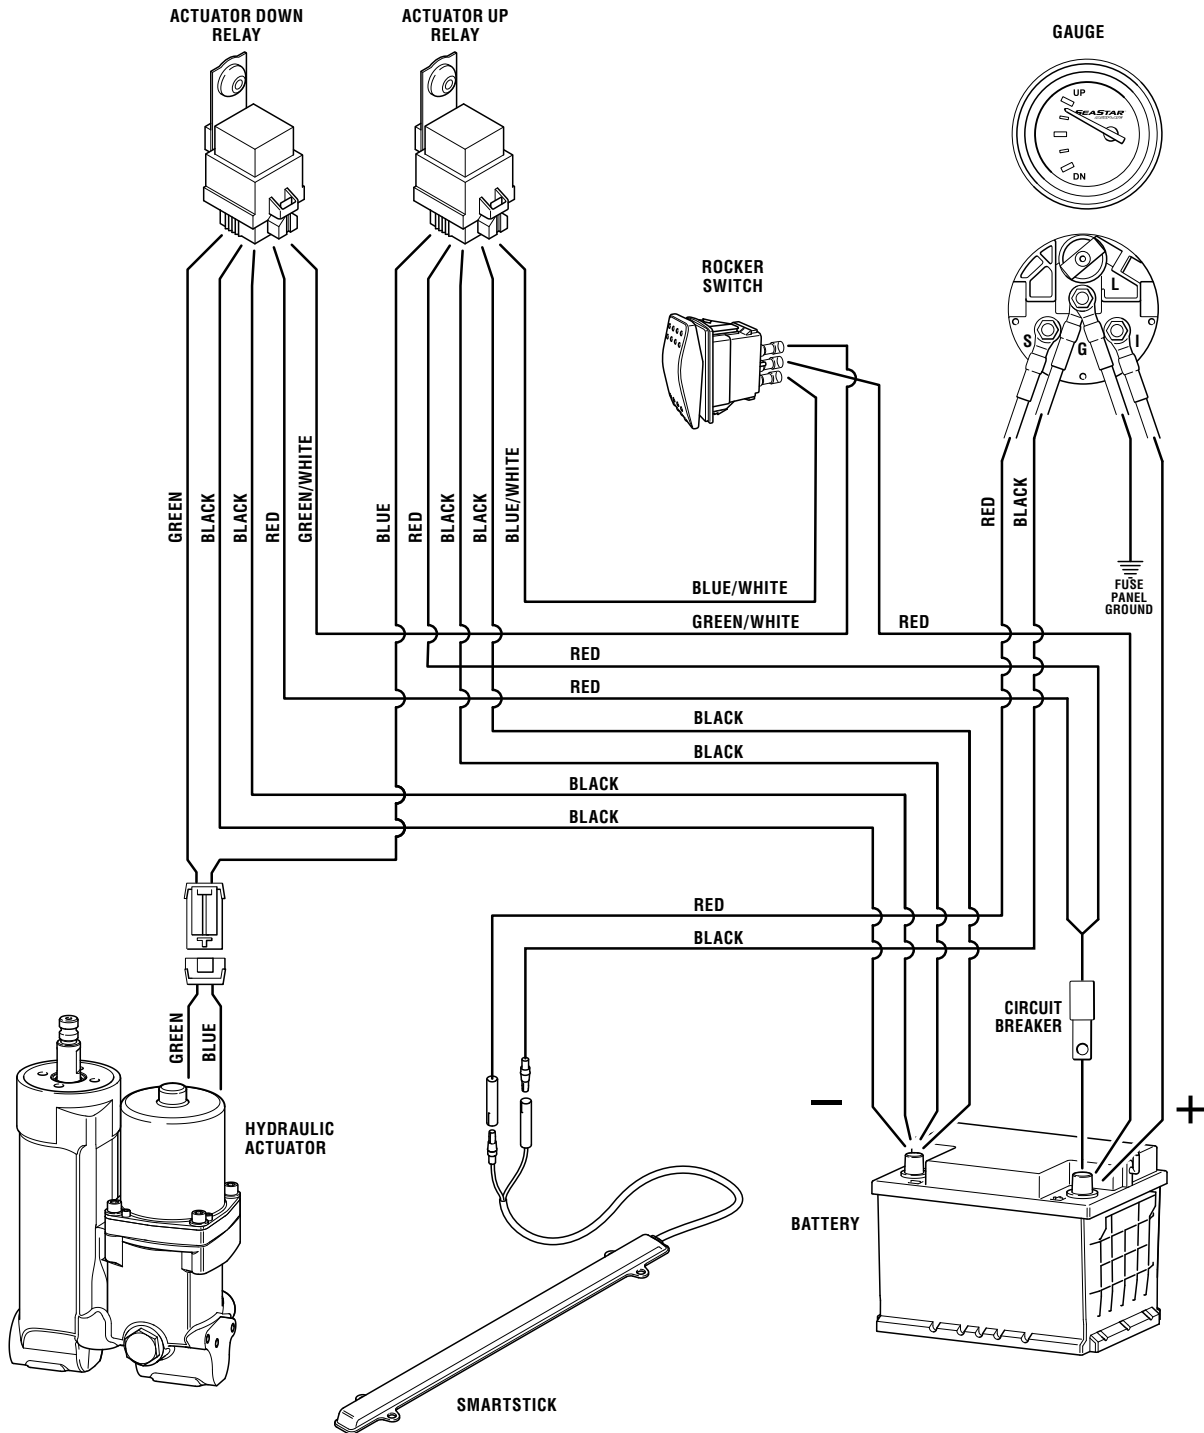

Figure 5. Main Wiring Diagram.
15. After the gauge and Jackplate have been installed on the boat as directed, connect the Smartstick and gauge harnesses as shown in figure 5 to complete the installation.